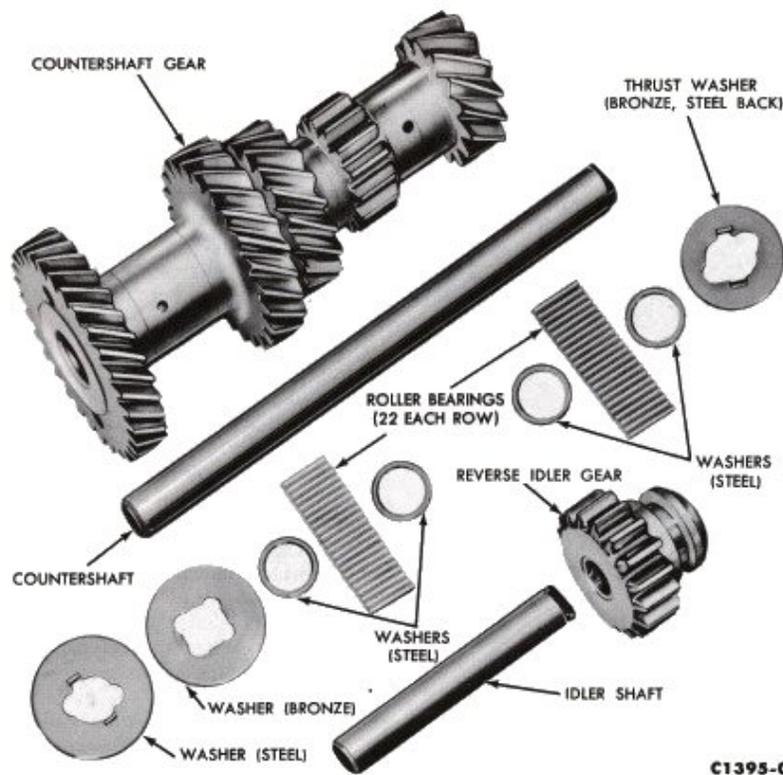

FIG. 21—Countershaft and Idler Gear Disassembled
1. Disassemble the countershaft gear as shown in Fig. 21. The six steel spacer washers are interchangeable.
3. Install 20 roller bearings, two spacer washers, 20 more roller bearings, one spacer, and one thrust washer in each end of the countershaft gear (Fig. 21).